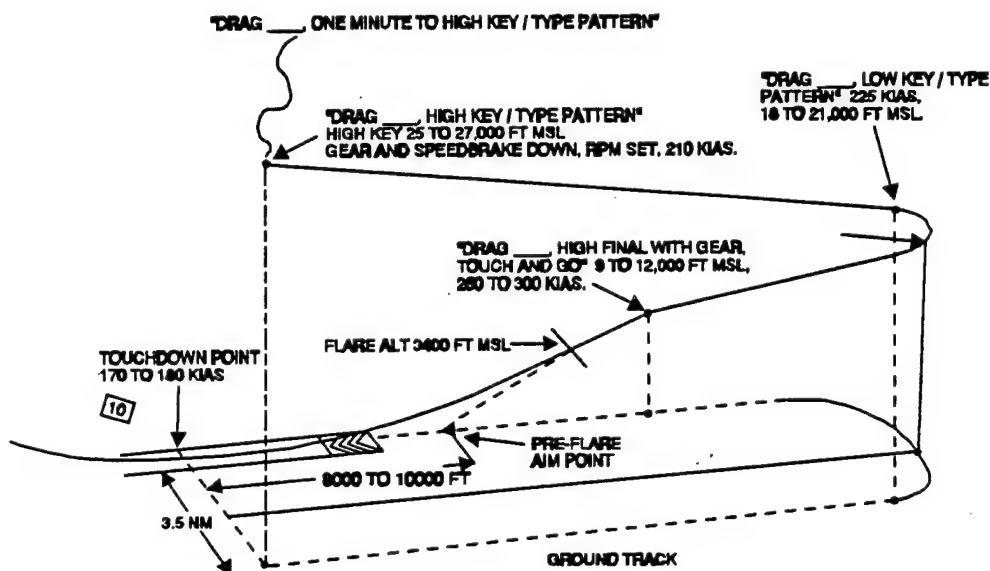

FIGURE 4
a. For the X-24B landing pattern, a constant 0.5 Mach number profile is flown with variations in L/D made by changes in both airspeed and drag (excess thrust for the T-38A). A typical profile with aim airspeeds and altitudes for the nominal flight path is shown in Figure 4. The optimum aim final approach airspeed (280 KIAS) should be roughly between the minimum and maximum airspeeds to allow for fine adjustments to glidepath so as to maintain a constant pre-flare aim point. It also allows for airspeed changes caused by gusts or wind shears. The pre-flare aim point is approximately 8,000 to 10,000 feet from the desired touchdown point at the 10,000 foot remaining marker on Runway 22/04. Minimum airspeed at the flare point is 260 KIAS. The pattern should be flown so that extra altitude must be converted to higher energy on final. Power may be retarded only during the flare to achieve the desired touchdown point; the simulation is no longer valid during the flare/ touchdown. Trim the aircraft during the flare, especially on heavyweight approaches, to eliminate heavy aft stick forces at touchdown.